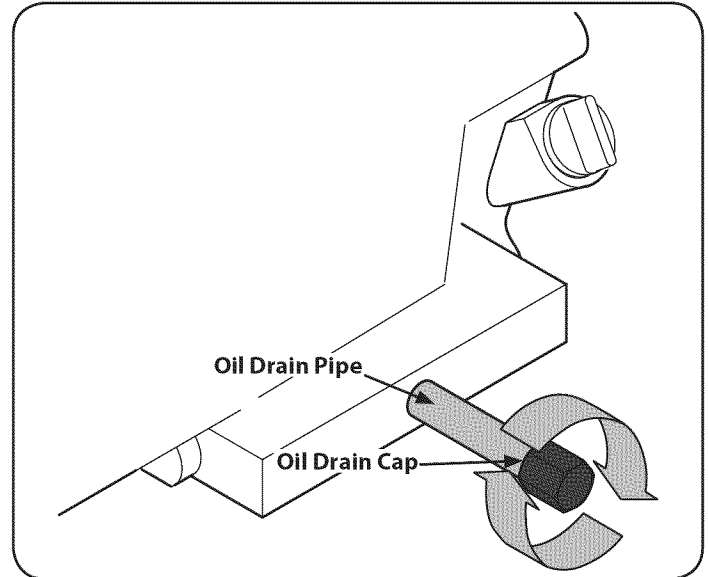

Figure 24
3. Remove oil drain cap located at the end of the oil drain pipe, and drain oil into an appropriate receptacle. See Figure 24.